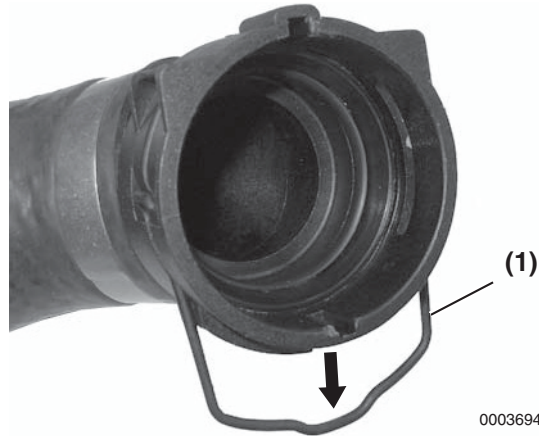

Figure 7-9
1. Pry metal clip (**Figure 7-9, (1)**) until it clicks into position shown.